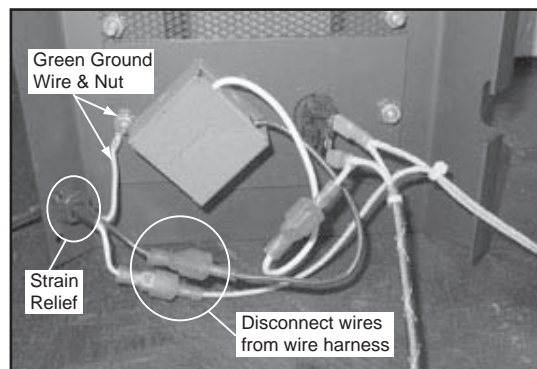

Figure 43.1
1. Remove the green ground terminal from the stud and unhook the neutral (white) and line power wires from the rest of the harness. **Figure 43.1.**